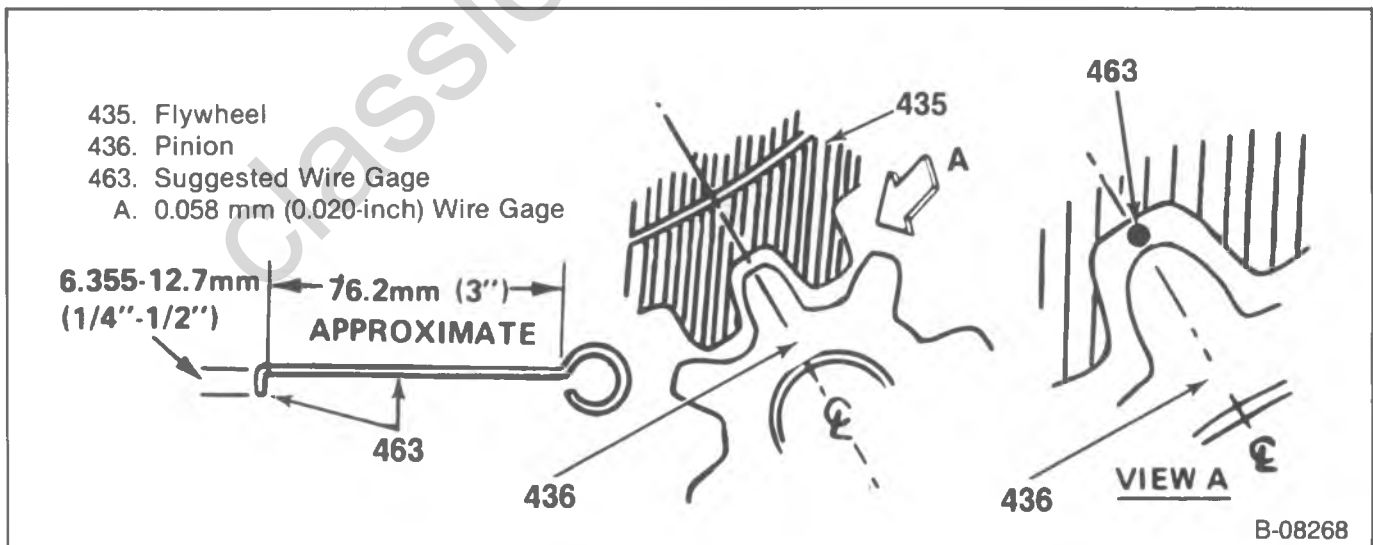

Figure 34—Flywheel to Pinion Clearance
the pinion teeth and flywheel teeth are meshed. If necessary, rotate the flywheel so that a pinion tooth is directly in the center of two flywheel teeth and on the centerline of the two gears (figure 34).
6. Measure the clearance between the top of the pinion tooth and the bottom of the flywheel tooth using the width of the wire gage (figure 34). Normal clearance is 0.5 to 1.5 mm (0.02 to 0.06-inch).
1. Gas engine starter motor mounting bolts to 38 N·m (28 ft. lbs.) (figure 34).